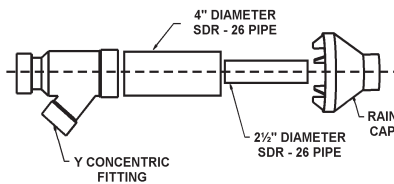

FIGURE 21.
- a) Cement Y concentric fitting to larger diameter kit pipe, see Figure 21.
NOTE: If assembly needs to be extended to allow side wall thickness requirement, the 2 pipes supplied in the kit may be replaced by using same diameter, field-supplied SDR-26 PVC (D2241) pipe. Do not extend 21 1/8" (53.6 cm) dimension more than 60" (1.5 m). See Figure 21.